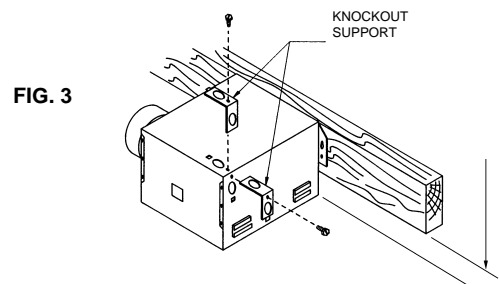

FIG. 3
2. Attach housing directly to ceiling joist using (4) screws or nails. Bottom flange of housing should drop below bottom of ceiling joist a distance equal to the thickness of the sheetrock minus 5/16". See Fig. 3.